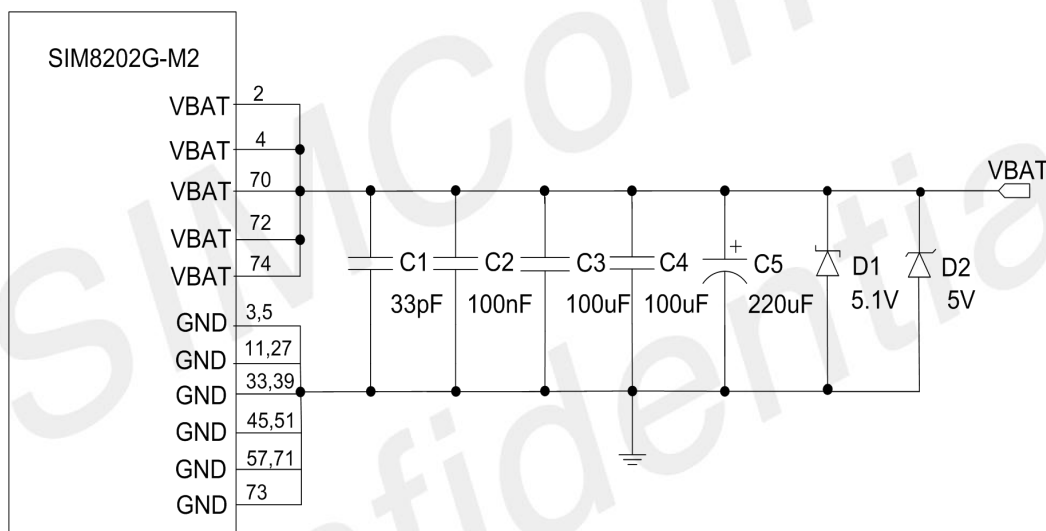

**Figure 4: Power consumption at ENDC combination of B3 (20MHz) and N79 (100MHz)**
2. The  $I_{peak}$  and voltage drop data in Table 6 and Figure 4 were tested use SIMCom EVB and connect instrument, module power supply voltage is 3.8V, ENDC combination is B3 (20MHz) and N79 (100MHz), subcarrier spacing is 30KHz.